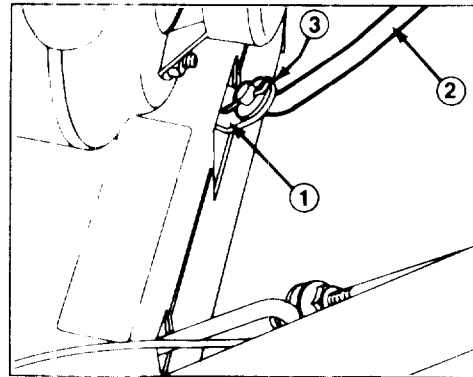
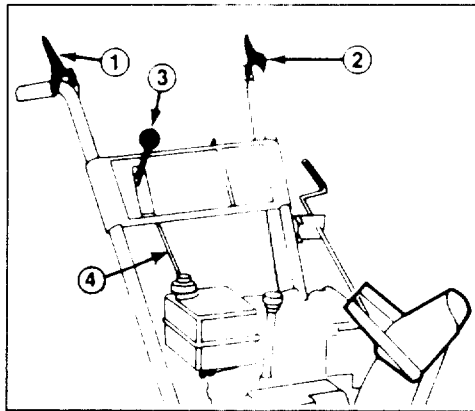

Figure 4
Figure 6
1. Pull speed selector arm (Fig. 4) to the fully "out" position and move speed selector (Fig. 6) on control
2. Install speed selector rod into selector arm, add one flat washer on the selector rod and secure with cotter pin (Fig. 4).
4. Adjust the two flange nuts up or down on the traction control rod until the distance between the top of the handgrip and the bottom of the traction control lever (Figs. 6 and 7) is approximately four inches. **This is a preliminary setting only.** Tighten the two flange nuts finger tight.
5. Move speed selector (Fig. 6) into third gear.
3. Check the distance between the top of the handgrip and the bottom of the auger control lever (Figs. 6 & 9). Distance should be approximately four inches. **This is a preliminary setting only.**